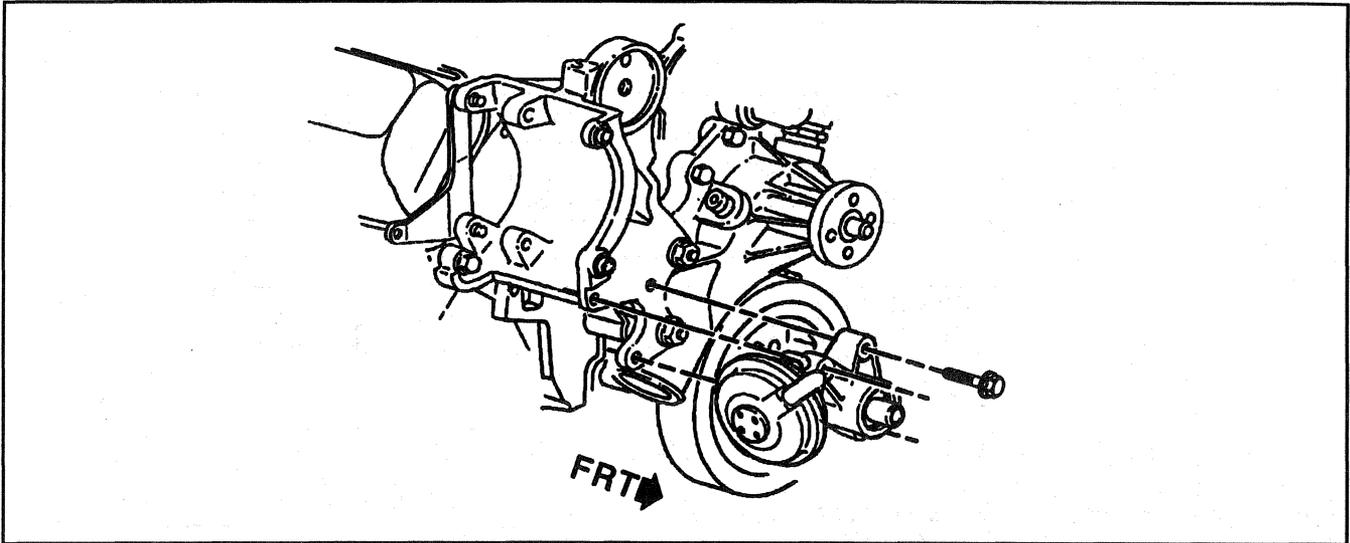

Figure 3—Vacuum Pump Mounting
↔ Remove or Disconnect (Figures 3 through 5)
↔ Install or Connect (Figures 3 and 4)
1. Vacuum pump to the bracket with bolts (Figure 3).